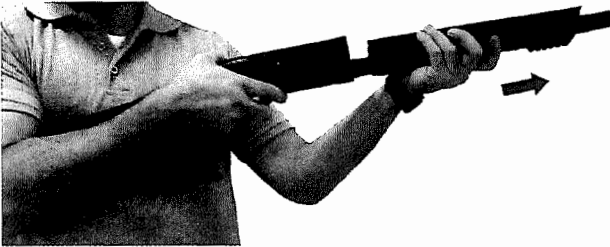

Fig. 2
4. Remove the barrel with barrel-forend gap spring together from the magazine tube. (Fig. 2)